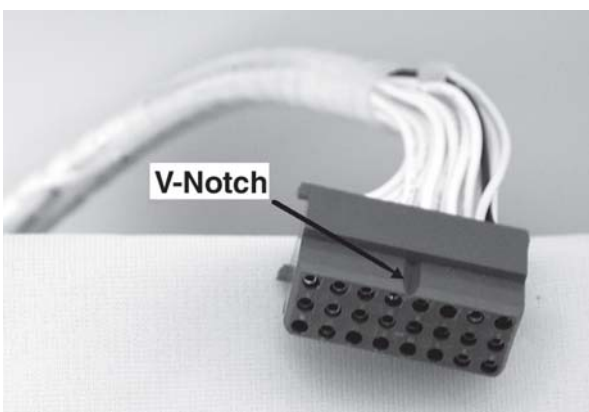

Figure 8 M-2001 Harness Connector
■ **NOTE:** The blue connector is keyed by a “V” notch in the middle to prevent incorrect mating (Figure 8). Check location of the key before plugging connector into the M-2001.